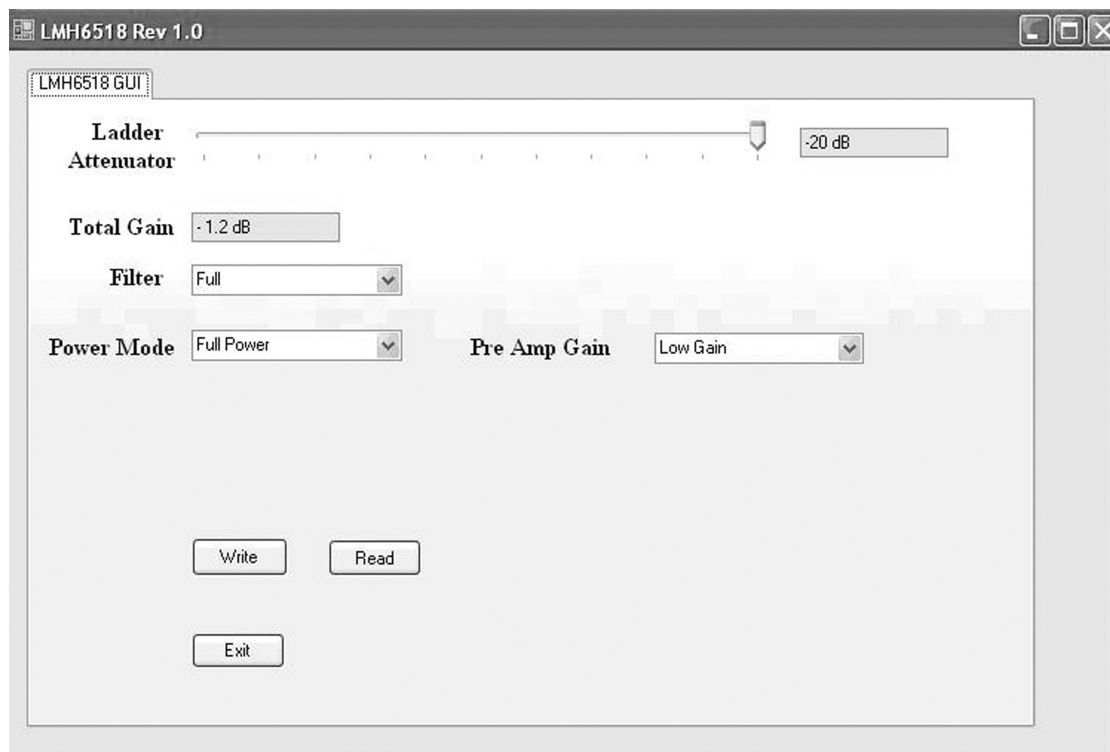

Figure 3. Evaluation Software Screen Shot
8. Plug the USB Interface board to a free USB port, with the other end mating with the USB port on the USB Interface board, and launch the LMH6518 software, if not already. If a pop-up window appears, click "yes to upload the correct setup to the USB Interface board and you are now ready to control the LMH6518. When the application is running, you should see "USB Connected All ACK" in the Status Bar at the bottom-left of the LMH6518 software window shown in Figure 3. If the status bar message does not appear, un-plug the USB cable and reapply to reinitiate the USB Interface board and until the proper message appears.